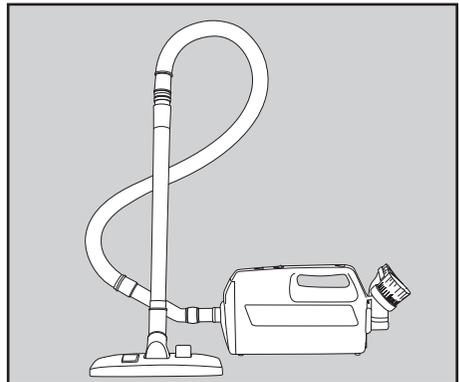

Fig. 6
- Attach the rug/floor tool to the end of the extension wand(s) for cleaning floors and area rugs (Fig. 6).